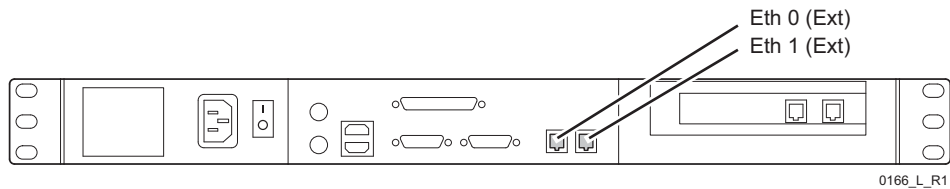
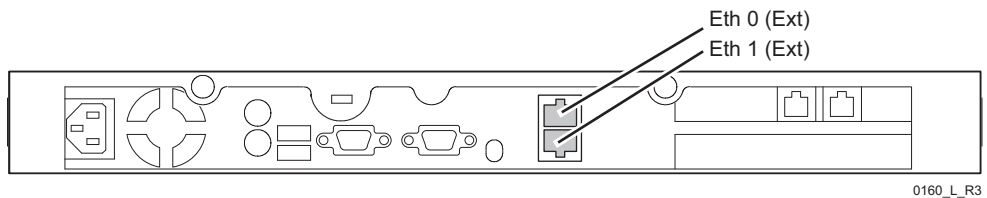
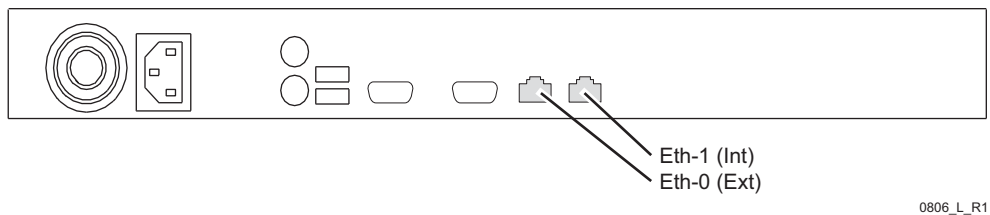

Figure 3-17. Wintec Service Processor Ethernet Ports
Figure 3-18. Dell 750 Service Processor Ethernet Ports
Figure 3-19. Supermicro and Supermicro II Service Processor Ethernet Ports
- 1 Your system should already have a crossover Category 5 Ethernet cable inserted into the appropriate Ethernet port. If necessary, insert a crossover Category 5 Ethernet cable (RJ45 to RJ45) into the Int (private) Ethernet port. Use port **ETH1** at the rear of the service processor (Figure 3-17 and Figure 3-18 and Figure 3-19).